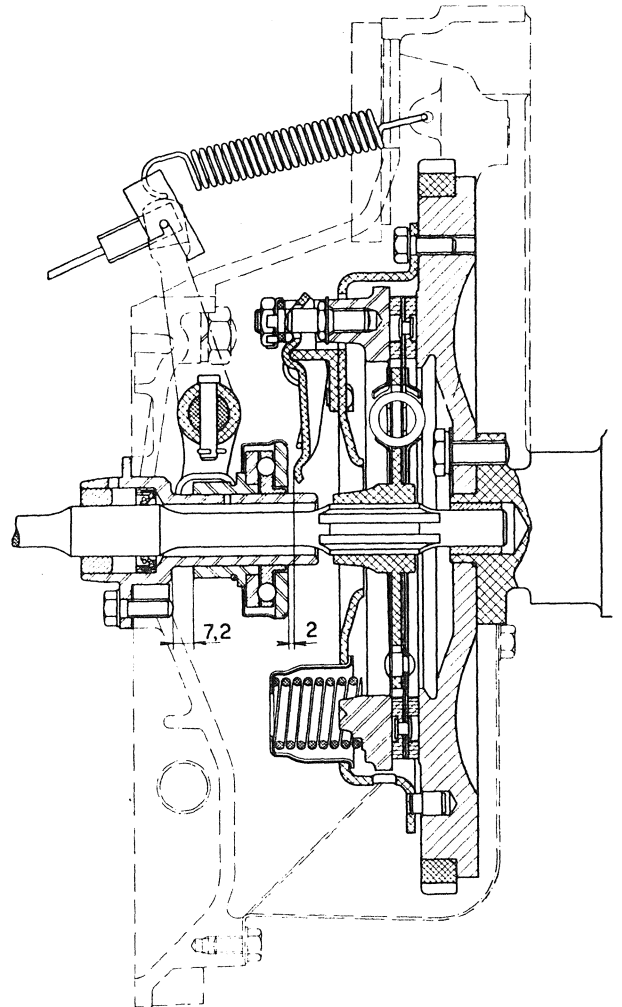

Fig. 197 - Longitudinal section of clutch through throw control (clutch shaft and driven plate are of the early type).
2) a return spring, connected to outer operating lever and anchored on gearbox casing (fig. 197) which, when in normal position, keeps throwout bearing away from the three withdrawal levers.